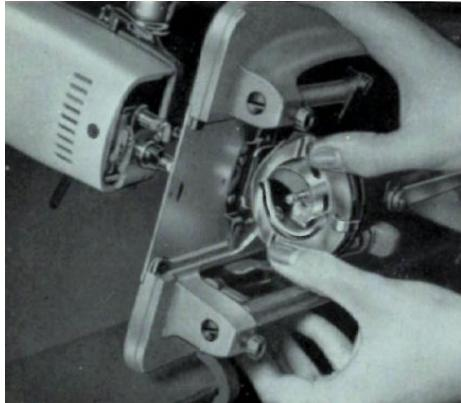

Figure 31
- 3) Snap out pins by spreading them apart, and with left hand, remove race plate by turning it away from the race (Figure 31).
- 7) Fit race plate onto the 2 short studs on the shuttle race and snap pins bac into place (figure 31).